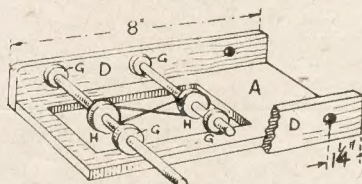

Fig. 4—An underview showing pulley drive
The two side rails (D) of the floor are next marked and cut. These measure 8 ins. by 1½ ins., and are glued and pinned to the edges of the floor, see Fig. 4. There are three axle holes in each piece, one hole in the middle of its length and one towards each end at 1½ ins. from the end as Fig. 4 shows.
½ in. thick and make a very substantial bearing for the toy. The outer faces of the wheels come flush with the ends of the axles, but on the latter will be threaded, during the building up, the washers (G), Fig. 4, which will keep the wheels evenly and properly spaced.
The centre axle will also have similar washers (G) put over it. The washers, of course, are placed so they come on the inside of the rails (D), see Fig. 4. The pulleys (H) are 1½ ins. in diameter, are made from the ¼ in. wood and grooved deeply with either a rat-tail or three-sided file. The former, it will be found, makes the better and more suitable groove. Glue on the pulleys as shown in position in Fig. 4, and later connect up with the belt shown.